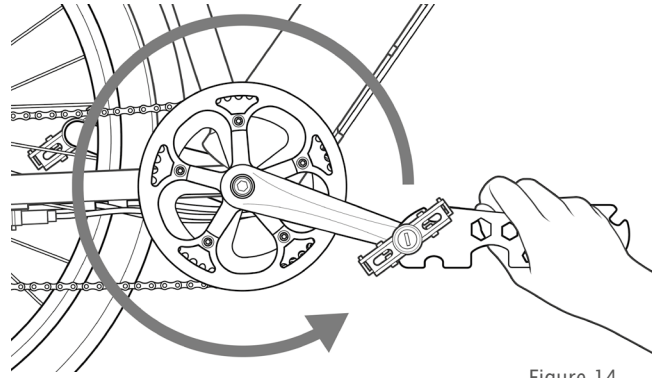

Figure 14
5.2 The right pedal is threaded normally. Thread it into the crank arm clockwise. Once it is threaded in a couple turns, it can be quickly threaded in the rest of the way by holding the flats of the pedal axle with the provided tool and pedaling backwards, as shown in Figure 14. Tighten this well.